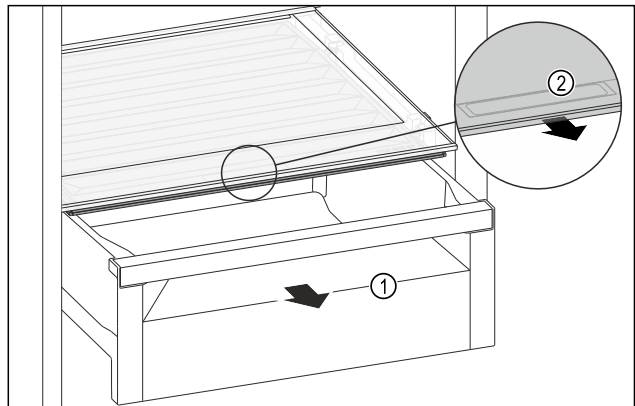

Fig. 106
- ▶ Pull out the drawer Fig. 106 (1).
- ▶ Grasp the recessed grip Fig. 106 (2) on the compartment lid and pull the compartment lid forwards at the same time.